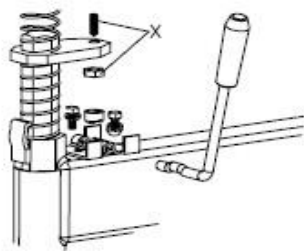

Fig 12
**Note:** If Hexagonal Vertical Arm not be locked or not meet the requirement that 2-3mm from the bottom of Mounting/demounting head to rim, please adjust Hexagonal Locking Plate, refer to Fig 12 and adjust the (X).